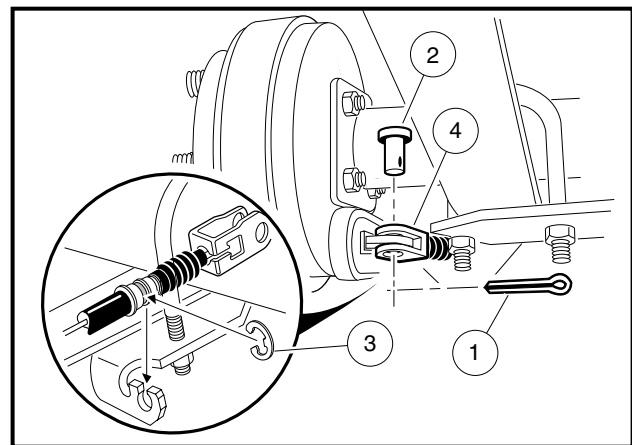

FIGURE 10-20
3.1. Remove the cotter pins (1), brake cable clevis pins (2), and cable retaining ("E") clips (3) (**Figure 10-20**).
3.2. Remove the cable from the cable support bracket (**Figure 10-20**).